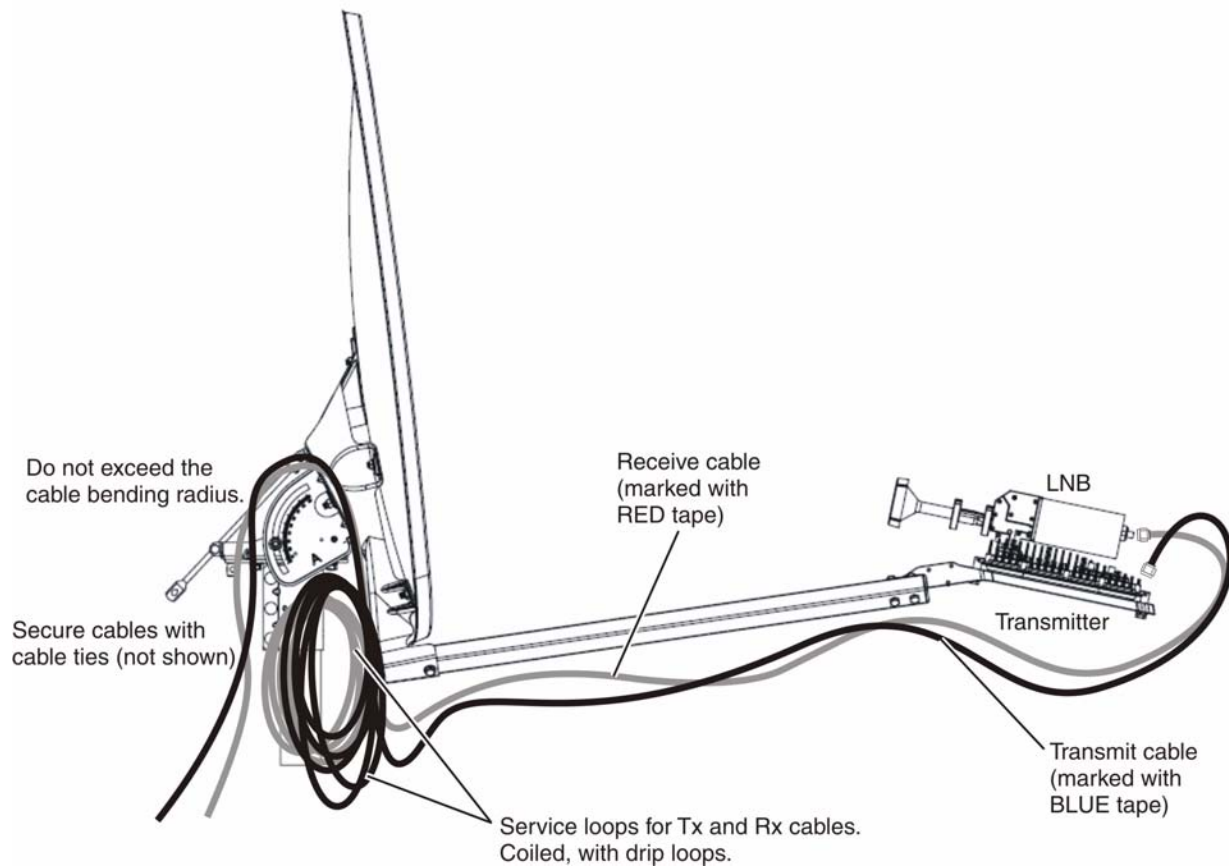

Figure 26: Transmit and receive cable configurations
1. Route the Tx cable (marked with blue electrical tape) over the Az/EI mount assembly, down behind the reflector, and along the feed support arms to the rear of the transmitter, in a configuration similar to that shown in Figure 26.
4. Route the Rx cable (marked with red electrical tape) over the Az/EI mount assembly, down behind the reflector, and along the feed support arms to the LNB, in a configuration similar to that shown in Figure 26 above.